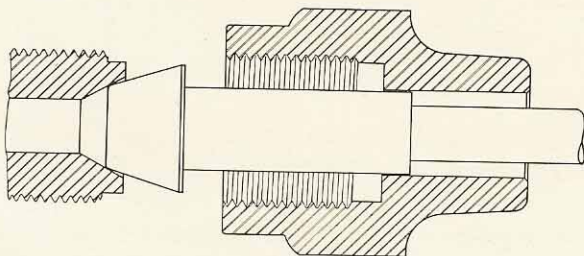

FIGURE 8-27
42. HIGH-PRESSURE FITTINGS: Fuel oil pressures of 1,000 pounds up to 20,000 pounds cannot be held by ordinary screwed or flanged fittings. Special compression fittings are used, with the joint made by a cone-shaped male nozzle in a conical seat, as shown in Figure 8-27. The high pressure tube is usually attached to the male member of the fitting by welding or brazing. Some joints, however, are made by bringing the tube through the male fitting and flaring the end of the tube over. The fitting should not be tightened